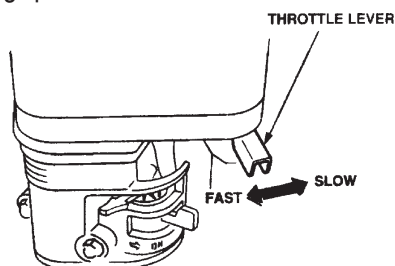

Figure 27. Throttle Lever
4. Rotate the **throttle lever** (Figure 27) halfway between **fast** and **slow** for starting. All cutting is done at **full throttle**. The engine governor speed is factory set to ensure optimum blade operating speeds.